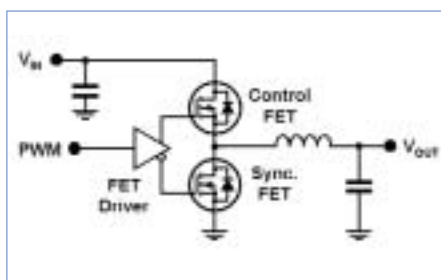

Figure 1. A single phase dc-dc buck converter used in POL applications.
1.3V, 1V, etc.) and would typically employ what is known as a Distributed Power Architecture (DPA). Here, a single voltage (typically 12V) is distributed across the design to a number of Point Of Load (POL) dc-dc converters that convert the bus voltage to the required lower voltage exactly where it is needed. Each POL converter then needs to exhibit high conversion efficiency in order to limit rises in temperature associated with dissipating power in a small area. A POL converter is typically a single or multiphase synchronous buck converter. A single phase is shown in Figure 1 and consists of, a MOSFET driver that controls the switching of two MOSFETs (termed the Sync FET and the Control FET) connected in a half bridge configuration. The mid point of the two MOSFETs, or switch node, is connected to an inductor that provides the output voltage.